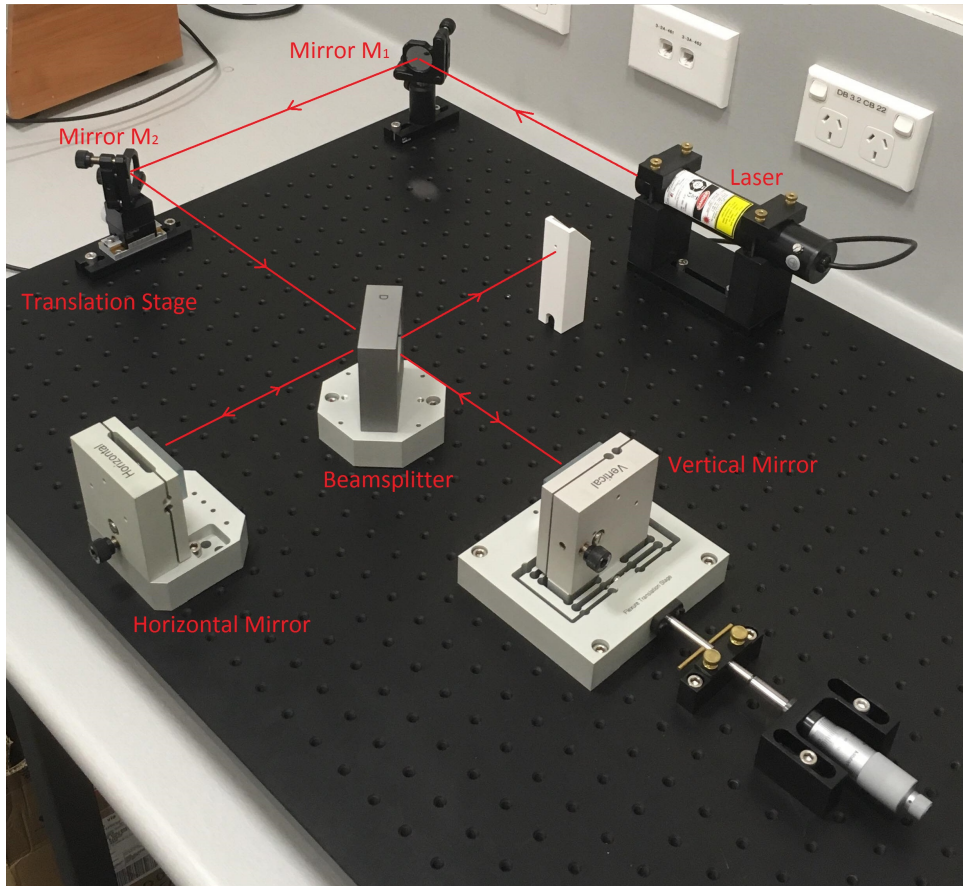

Figure 2: Entire Michelson Set Up
-First set up the Michelson interferometer as shown in Figure 2 below.